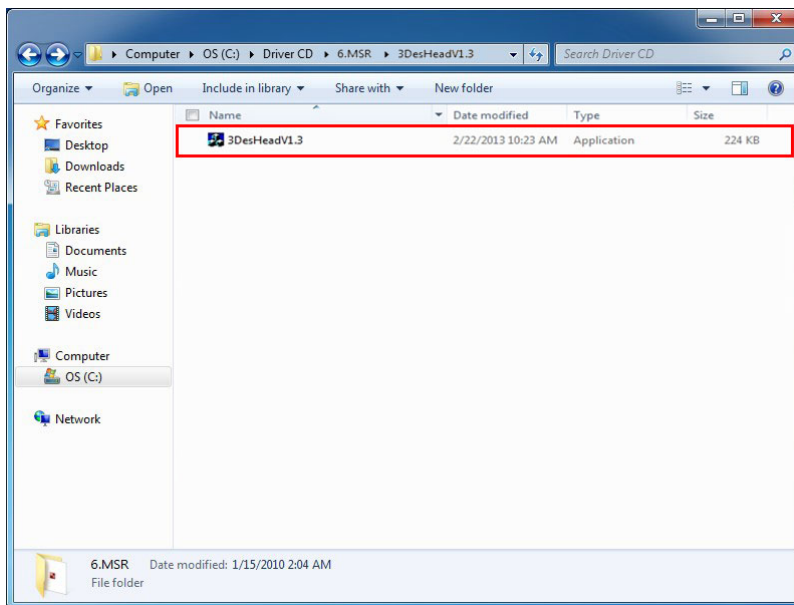

Figure 3-25: 3DesHeadV1.3 Demo Program Location
Step 2: Launch the **3DesHeadV1.3** demo program. Select **6.MSR** from the list of the driver CD. Double click the **3DesHeadV1.3** icon from the 3DesHeadV1.3 folder to launch it (**Figure 3-25**).